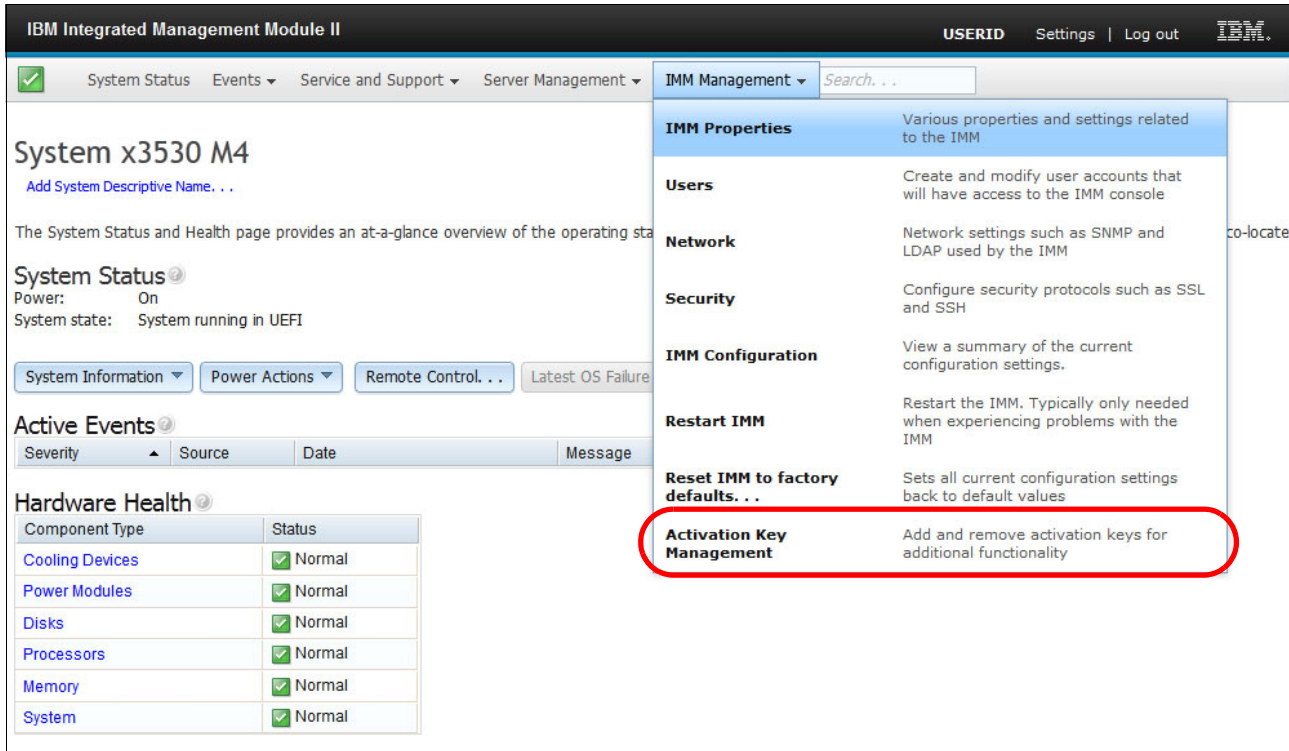

Figure 3-2 Activation Key Management menu
- From the menu bar, click **IMM Management** → **Activation Key Management**, as shown in Figure 3-2.